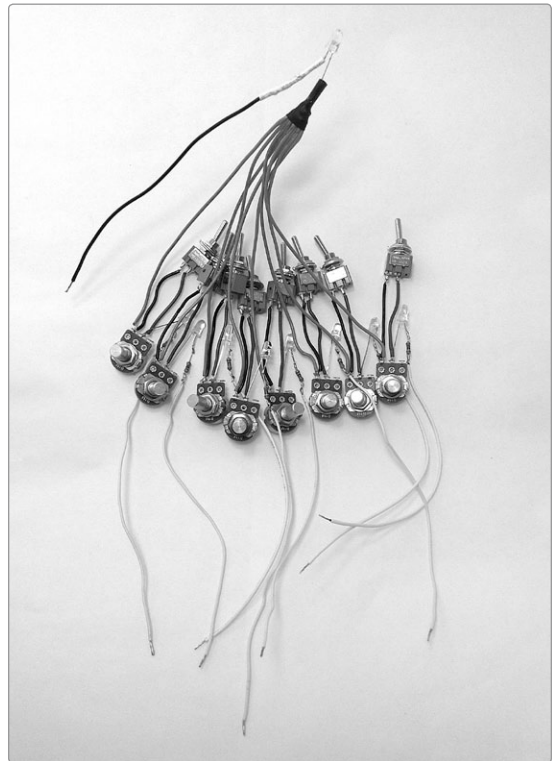

FIGURE 16-8: The finished bundle of pitch controllers connected to the control LED
Step 6 Once you've finished all eight pitch controllers, gather the leads connected to lug 1 of each pot and twist the ends together into a big bundle, using pliers if necessary. Solder that bundle to the longer, positive leg of the final LED—which will serve as the optocoupler's control LED. Then, cut, strip, and tin another 6-inch length of insulated wire and solder it to the negative leg of this LED (the shorter leg nearest the flat area on the LED body). Consider reinforcing the eight-wire LED connection with some electrical tape or shrink tube, as I have, to prevent short circuits. Figure 16-8 shows the finished 8-step controller assembly.